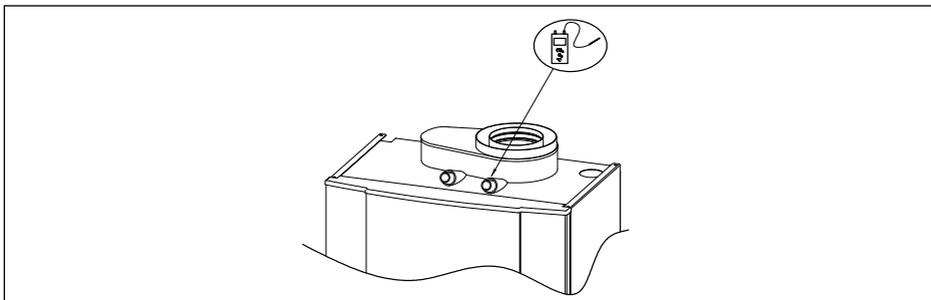

Fig. 18 Flue gas measure point.
14. Connect flue gas analyser to test point (see Fig. 18)